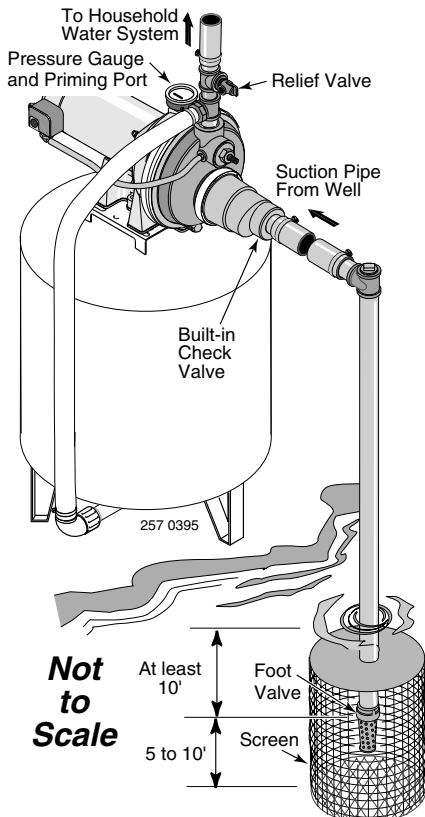

Figure 9: Surface Water Installation
- Step 4. Assemble a foot valve and suction pipe (see Figure 9). Make sure that the foot valve works freely. Use teflon tape or a teflon-based pipe joint compound on threaded pipe joints. Protect the foot valve assembly from fish, trash, etc, by installing a screen around it (see Figure 9).
- Step 6. Install a priming tee, priming plug, and suction pipe to the pump (see Figure 9). Support the pipe so that there are no dips or sags in the pipe, so it doesn't strain the pump body, and so that it slopes slightly upward from the well to the pump (high spots can cause air pockets which can air lock the pump). Seal the suction pipe joints with teflon tape or a teflon based pipe joint compound. Joints must be air- and water-tight. If the suction pipe can suck air, the pump cannot pull water from the well.